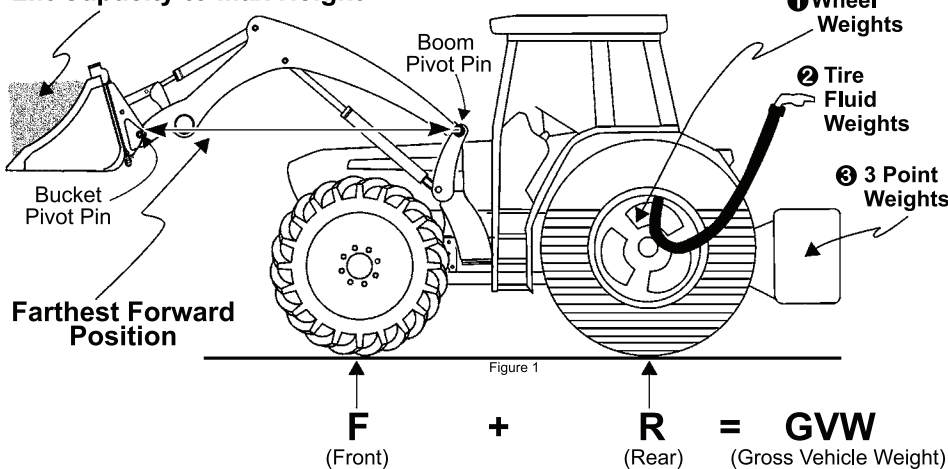

Figure 1
- A mass equivalent to the Lift Capacity maximum height should be placed in the loader bucket, with the boom raised until the bucket pivot pin is the same distance from the ground as the boom pivot (farthest forward position). The rear axle weight and gross vehicle weight should be measured on hard level ground ($\pm 1^\circ$) under these conditions. See Figure 1.
STEP 2: At the scale get the gross vehicle weight (GVW) with the loader raised so the bucket pivot pin is as high as the boom pivot pin. See Figure 1. Then weigh the rear axle (R).